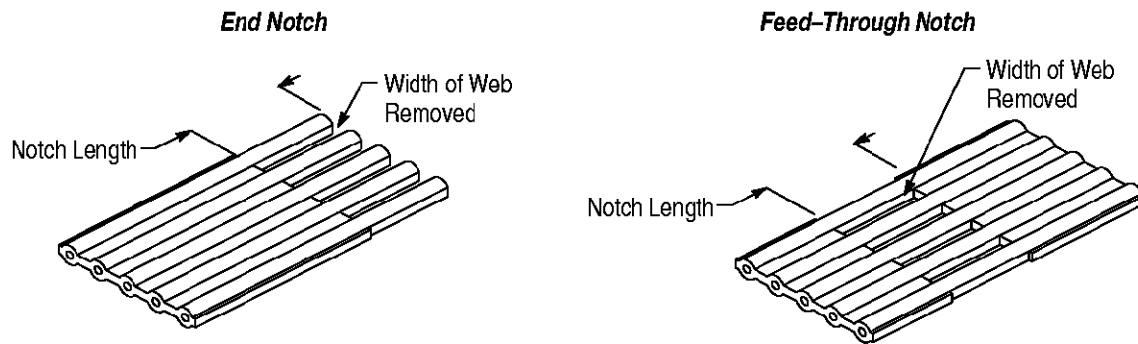

Figure 5
6. Refer to Figure 5, and inspect the cable according to the specifications listed in Figure 1.
7. Refer to Figure 5, and inspect the cable according to the specifications listed in Figure 1.